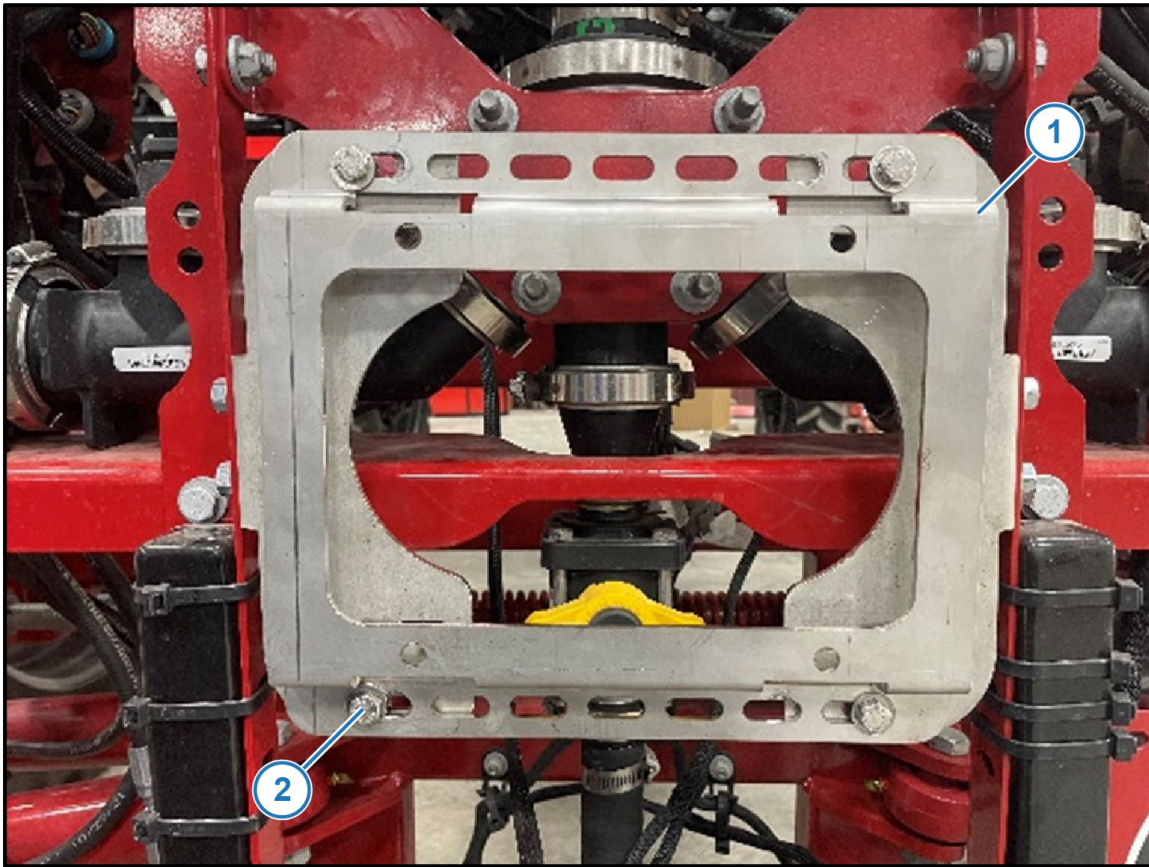

Figure 3 — Universal Bracket Installation
4. *Figure 3:* Install Envelop Hub universal bracket (123000-013) (1) on Case IH mounting brackets using supplied cap screws (713501-517), washers (713600-003), and flange nuts (713501-530) (2).